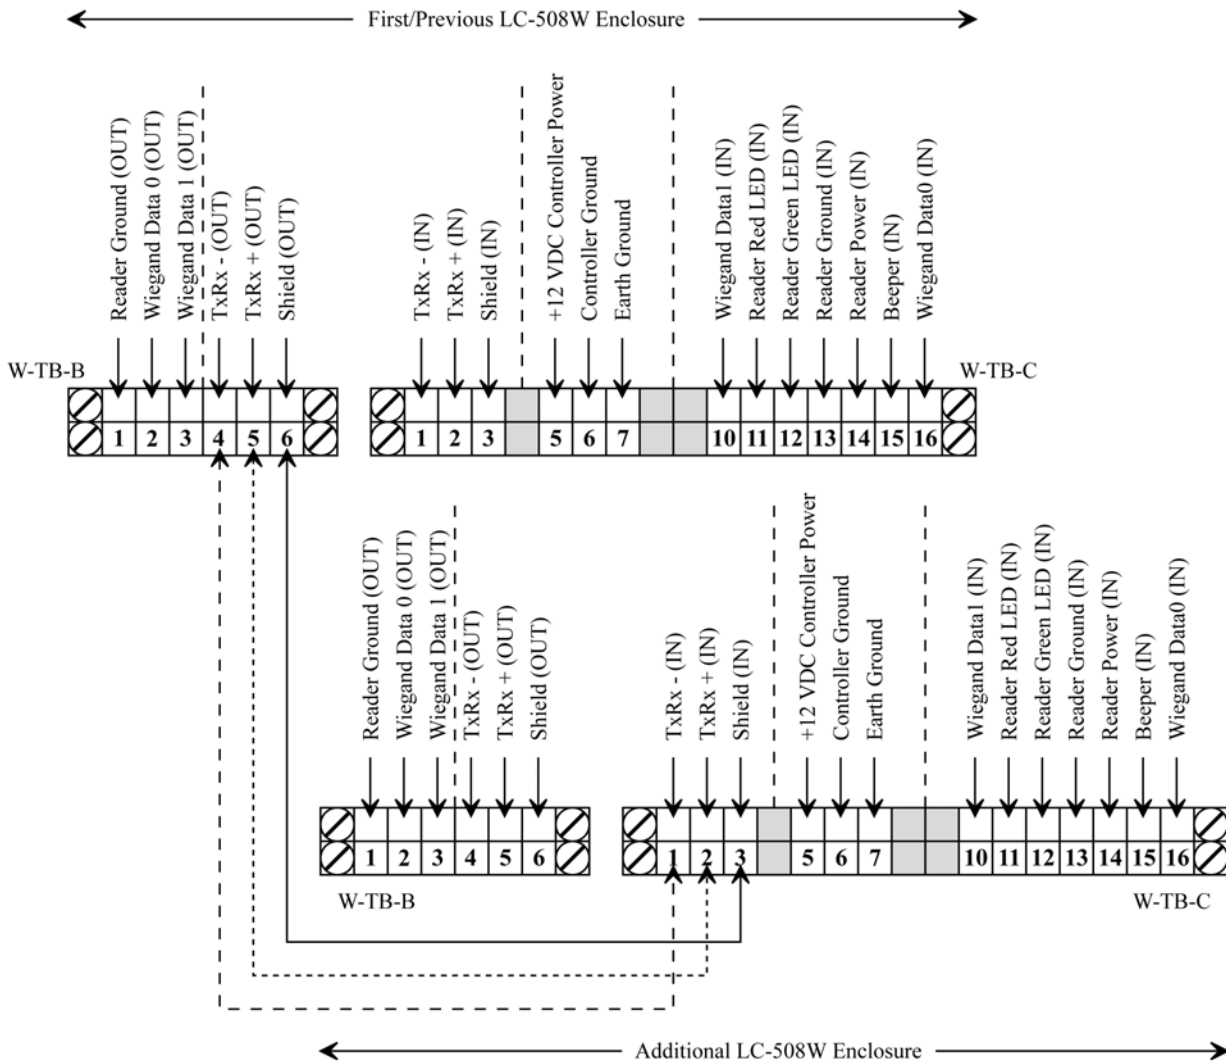

Figure 15: LC-508W to LC-508W Panel Communication Wiring
3. Daisy-chain the TxRx+, TxRx-, and Shield Network Communication connections from W-TB-B of the additional LC-508W panel to W-TB-C of the previous LC-508W panel. Make the connections per the information in Table 10 and Figure 15 on page 23.